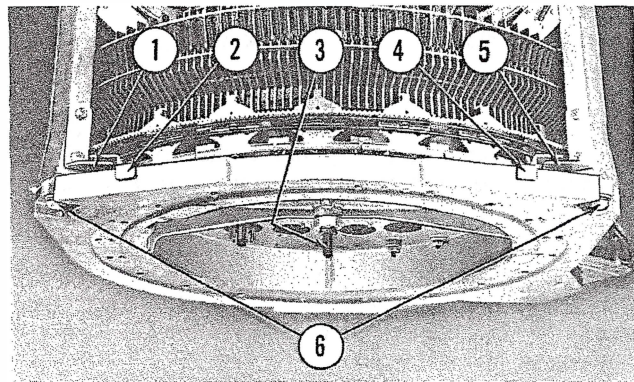

Fig. 37. ELECTRIC SELECTOR CENTERING
(1) Centering of the 200 selection electric selector assembly must be carefully done whenever the selector pin assembly is removed from the mechanism. The assembly is held in position by two mounting screws (Fig. 37, Item 6) and by the mounting plate (Fig. 30, Item 7) at the rear of the assembly. Observe the caution label on the rear plate and remove only the upper two screws.
The front edge of the casting is provided with two guide brackets (Fig. 37, Item 2 & 4) which fit over two guide plates (Item 1 & 5) on the front hangers. The engagement of these brackets serves to support the front of the selector pin assembly while the rear mounting plate is securely fastened by its upper screws. Centering shaft #69247 (Item 3) shipped with each phonograph, should be inserted through the center bushing and into the main selector shaft. The 2 front mounting screws (Item 6) should be turned in by hand until the selector pin assembly is in contact with the front hangers. While in this condition the selector pin assembly should be positioned so that the centering pin slides in and out of the main shaft freely. Maintaining this alignment the front screws should be tightened. Carefully check the selector crank arm adjustments and check for correct selections.